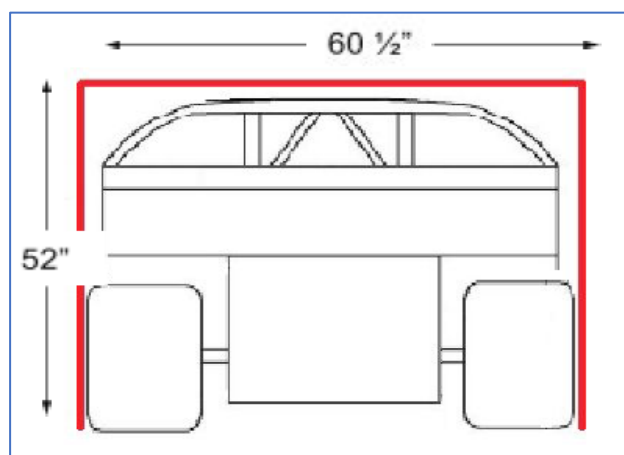

Figure 1
**6.8** All cars must pass freely (not touch) through a hoop 60.5 inches wide by 52.0 inches high, in full race trim, weighing 1325 pounds or greater with driver in the car (*Figure 1*).